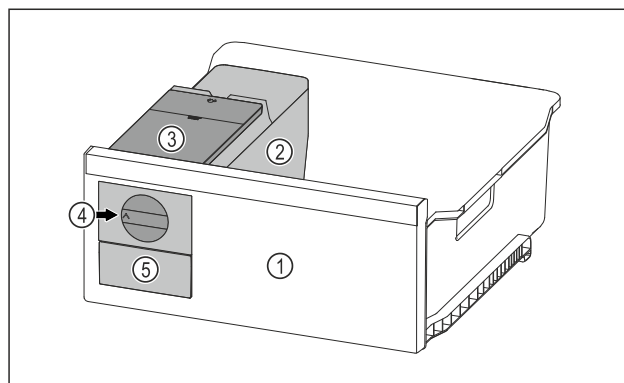

Fig. 78 Example illustration
- Turn the rotary knob Fig. 78 (4) clockwise as far as it will go.
- Ice cubes fall from the ice cube tray into the ice cube drawer Fig. 78 (5).